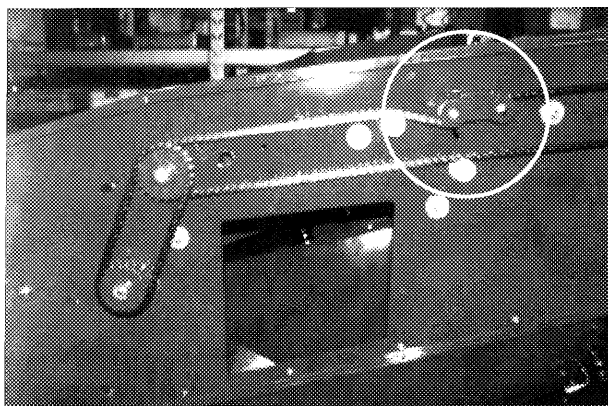

Fig. 48-7
**Picking table conveyor end/grader\*/cleaning rollers\*** (Fig. 48-7)